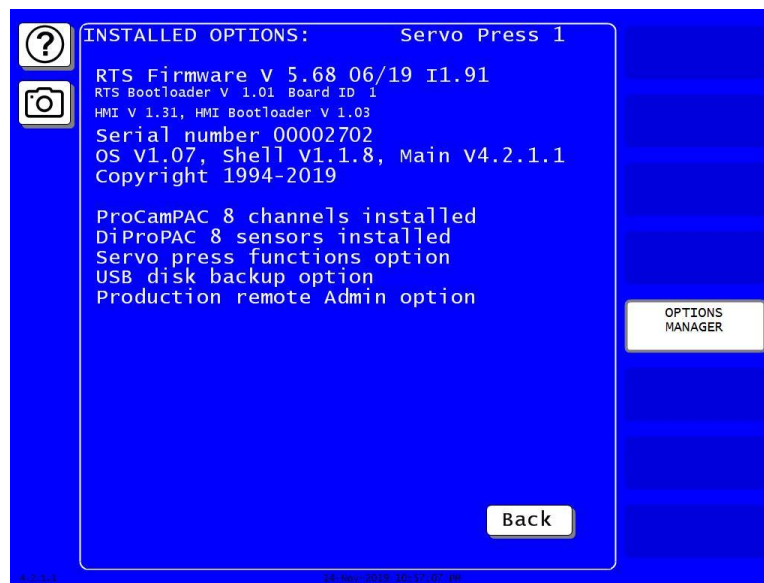

Figure 2-22. Installed Options Screen
2. Press INSTALLED OPTIONS. The Installed Options screen, shown in Figure 2-22, page 58, displays.